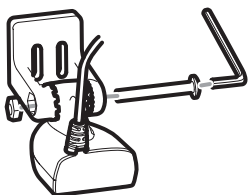

Figure 18
- Put the pivot bolt through the assembly to hold it in position and loosely install the nut, but do NOT tighten the nut at this time (Figure 18).